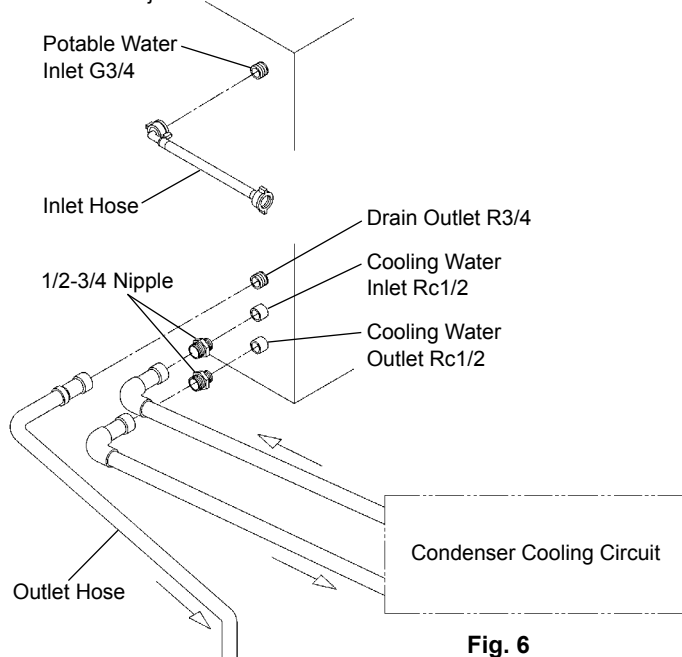

Fig. 6
- \* Hoshizaki recommends that the water-cooled Condenser should be connected to a closed circuit recirculating type cooling system utilizing a tower, water chiller or similar (see Fig. 6 and 7). Water make up should be via a ball valve/break tank arrangement.
## [a] Standard connections according to WRC regulations in U.K. (Fig. 6 and 7)
5) Connect the Condenser cooling circuit to the free ends of 1/2-3/4 nipples as indicated (Fig. 6), using a suitable rigid type pipe. P.T.F.E. tape and/or a suitable sealing compound should be used to obtain a leak free joint.